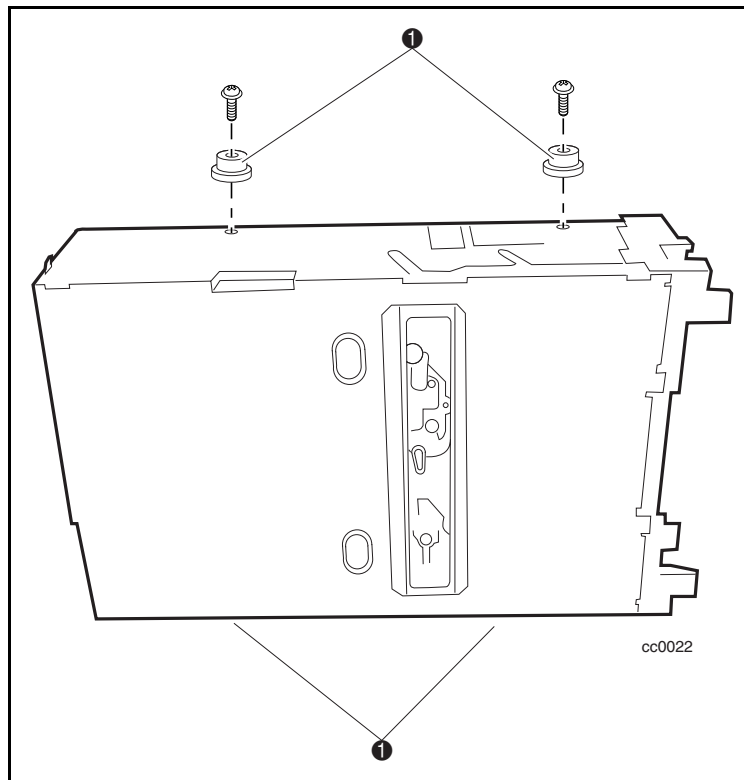

Figure 5. Alignment pin installation
Four alignment pins need be installed into the new drive prior to installation. Each alignment pin consists of a plastic spacer (top hat) and a screw (❶ Figure 5).
2. Install the alignment pins at the locations shown (❶ Figure 5).